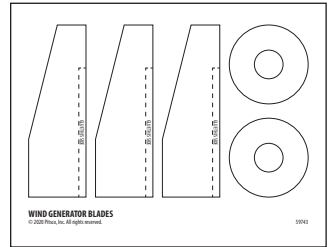

Figure 1
2. Using scissors or a hobby knife, carefully cut out the circles and the blades from the card-stock sheet (Figure 1). Cut out the small circle in the middle of each card-stock circle.